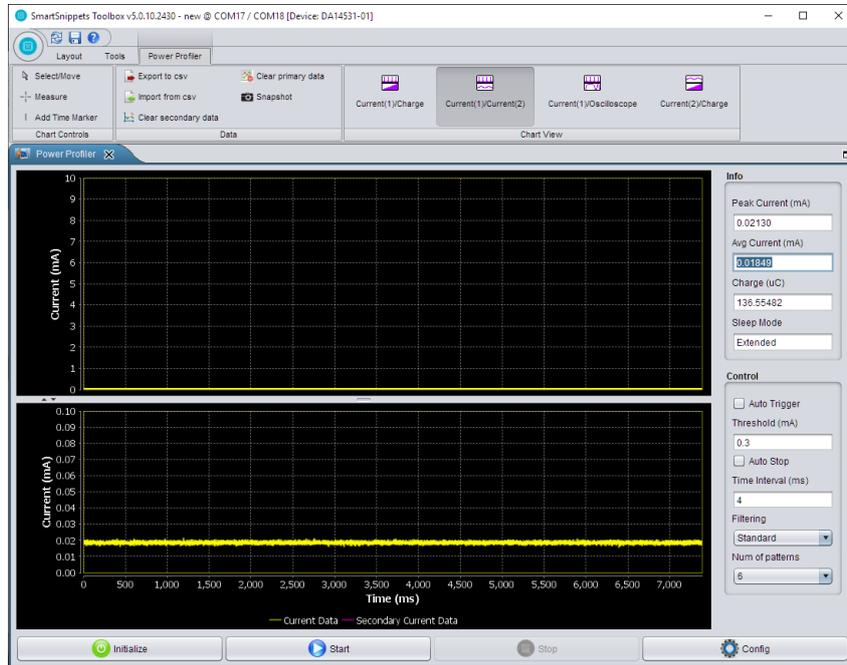

Figure 48: Measuring Offset
- Run a free running capture for a few seconds and note down the number in the **Avg Current (mA)** box (Figure 48). Note that the last digits of the number keep changing slowly due to temperature drift. It is important to periodically execute the calibration steps.